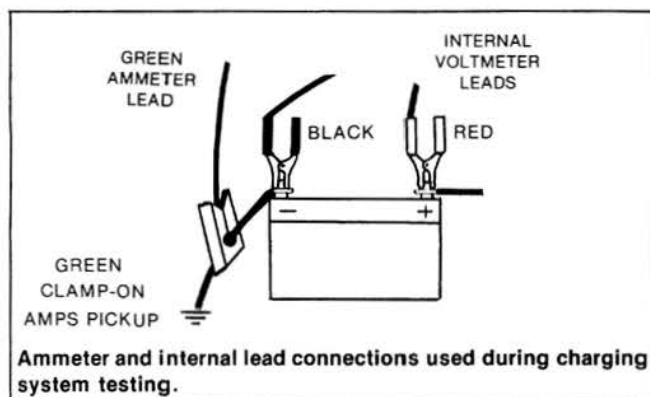

Figure 11
- D. Connect tester leads as shown in Figures 11 and 12. Reverse voltmeter leads when testing vehicle with positive ground electrical systems.
- Observing polarity, connect test leads as shown in Figures 11 and 13. Reverse voltmeter leads for positive ground systems.
- Observing polarity, connect test leads as shown in Figures 11 and 14. Reverse voltmeter leads for positive ground systems.
B. Observing polarity, connect test leads as shown in Figures 11 and 15. Reverse voltmeter leads for positive ground systems.